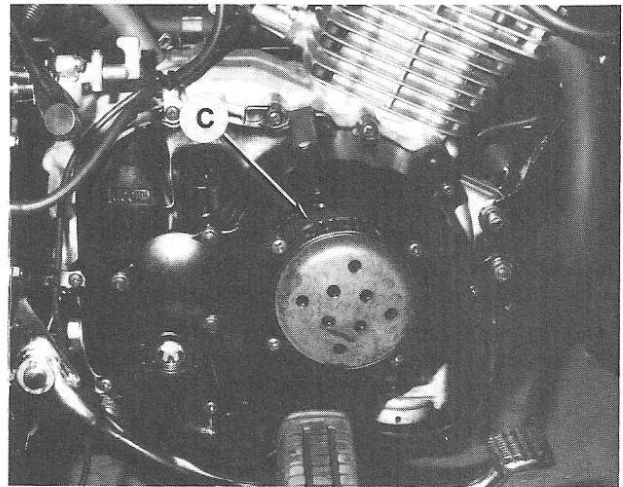

Fig. S6-16—Remove side cover (C) to obtain access to clutch adjusting screw.
The clutch should be adjusted after the first 200 km (100 miles) of operation and every 2000 km (1200 miles) thereafter. To adjust clutch, remove cover (C—Fig. S6-16) on right side of crankcase. Loosen locknut (L—Fig. S6-17). Turn adjusting screw (S) in stopping just as internal resistance is felt, then back screw out 1/8 turn. Secure adjusting screw while tightening locknut.